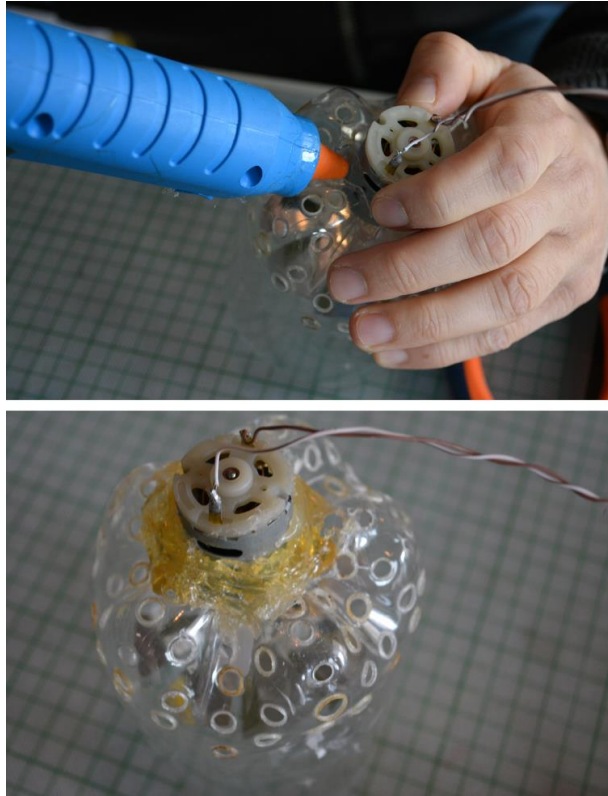

Figure 28
- Place the motor through the wide hole at the bottom of the bottle as shown in Fig. 28. Use a hot glue gun to glue securely the motor as shown in Fig. 28. Do not place hot glue on the openings that the motor has on its side.